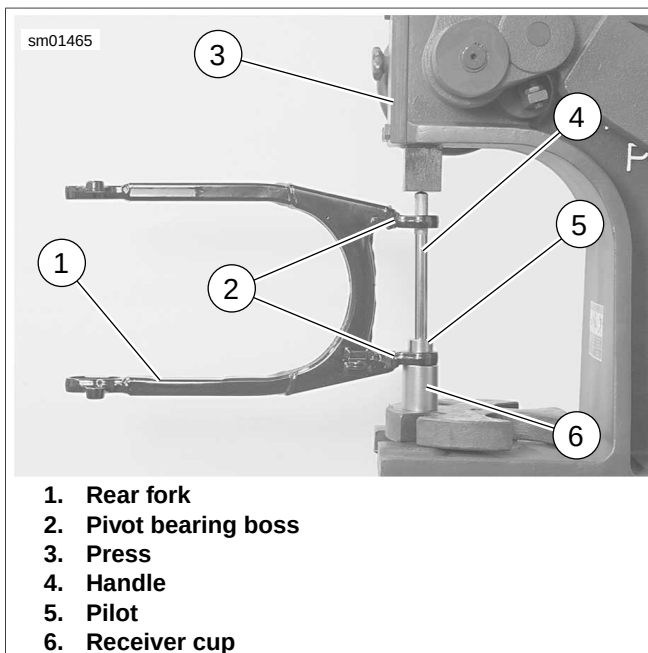

Figure 2-205. Removing Rear Fork Pivot Bearings: All Models (XL Shown)
1. See Figure 2-205. Using BEARING REMOVER/INSTALLER TOOL (Part No. HD-46281) (4, 5, 6), carefully press bearing assemblies from fork bearing bosses (2):
- a. Place receiver cup (6) on press bed, with recessed end of cup facing up.
- b. Place rear fork pivot bearing boss (2) over cup as shown in the photo.
- c. Slide pilot (5) through bearing and into receiver cup.
- d. Insert handle (4) through other rear fork pivot bearing boss and bearing, down into pilot.